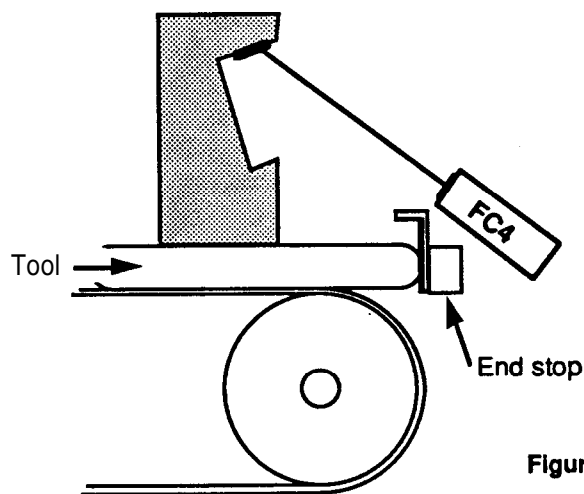

Figure 10C
- 1 Unplug the CAM MOTOR and CONVEYOR BELT MOTOR from PCB 106/A/B. Open S23 on PCB 103/A/B to disable the CAM MOTOR time out. Place the correct TOOL (see above) on the conveyor belt as shown in fig 10C. Make sure the TOOL is hard against the END STOP and the RIGHT HAND CASSETTE GUIDE. Trigger FC 2 by breaking the beam with your finger. The FC 4 LED **should** light. When you remove the TOOL the FC 4 LED should go off.